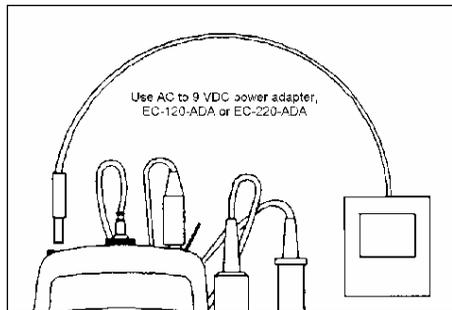

Figure 11: Putting the AC Power Adapter
2. Select the correct voltage of AC/DC Adapter. See Figure 11.